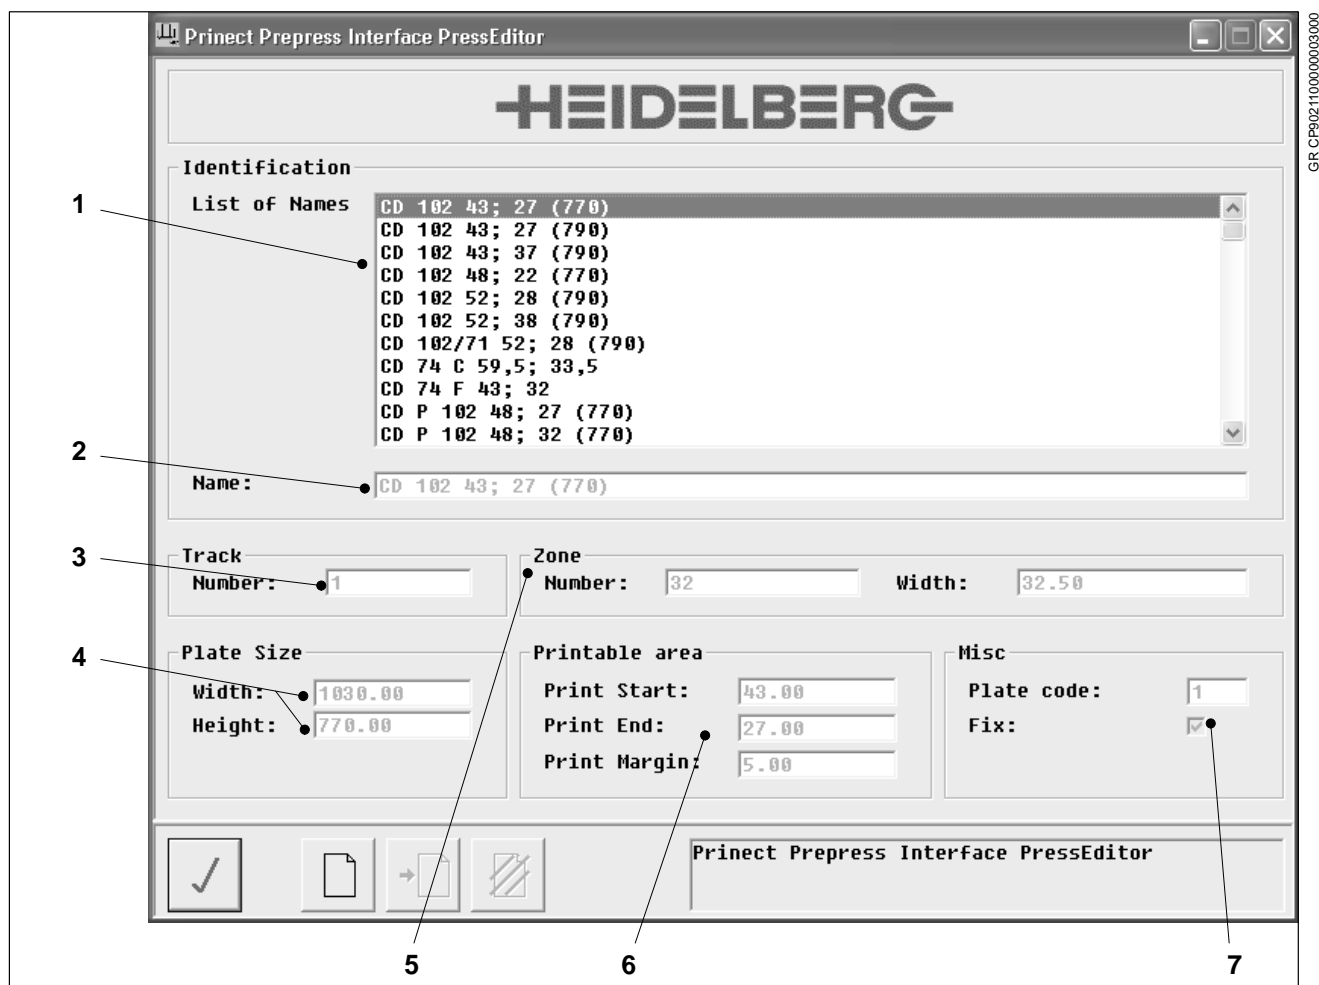

Fig. 15 *PressEditor* dialog box
1. Select the desired press in the list of names in the upper section of the dialog box (Fig. 15/1). The lower section of the dialog box shows the parameters of the selected press.